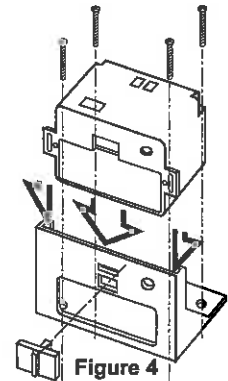

Figure 4
- Slide the Remote Receiver into the fireplace mounting plate. See *Figure 4*.